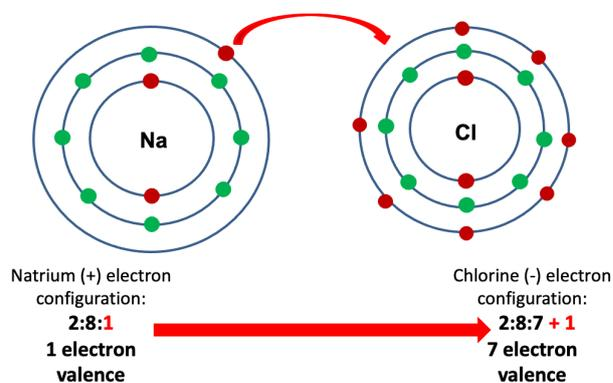

Figure 2.11 : Ionic Bonding NaCl
- **Figure 2.11** shows the example for Sodium Chloride (NaCl) where Na donates/ transfers its one electron valence to Cl so they both could have a stable octet.